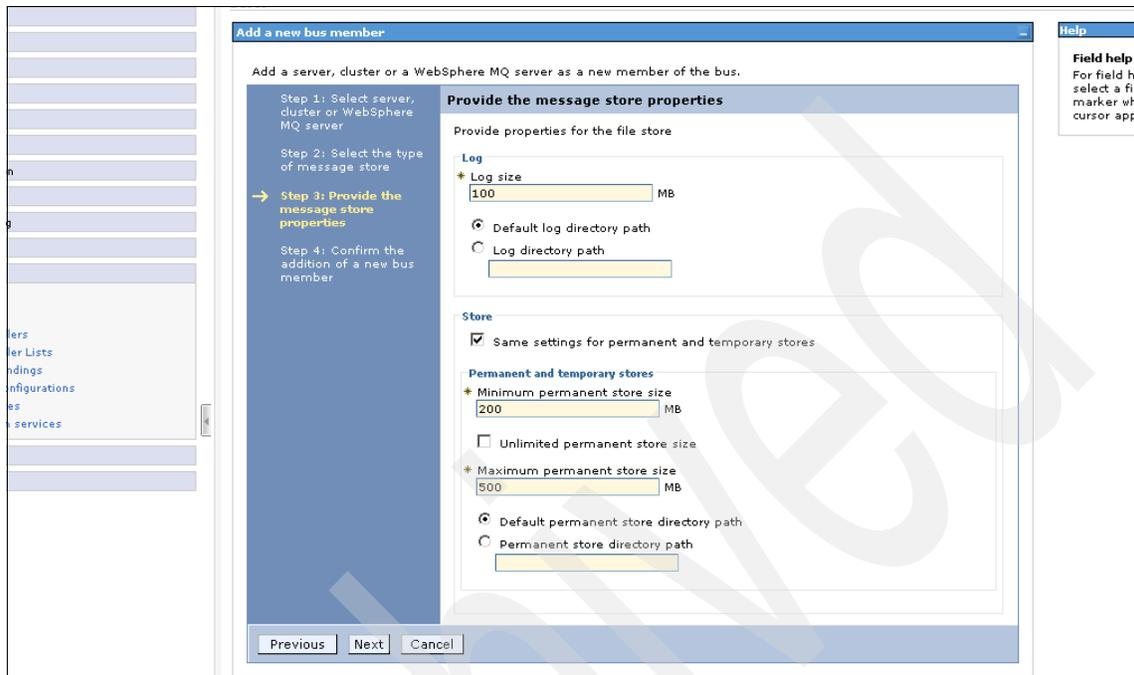

Figure A-27 Provide the message store properties
- From the Provide the message store properties panel, click **Next** (see Figure A-27).